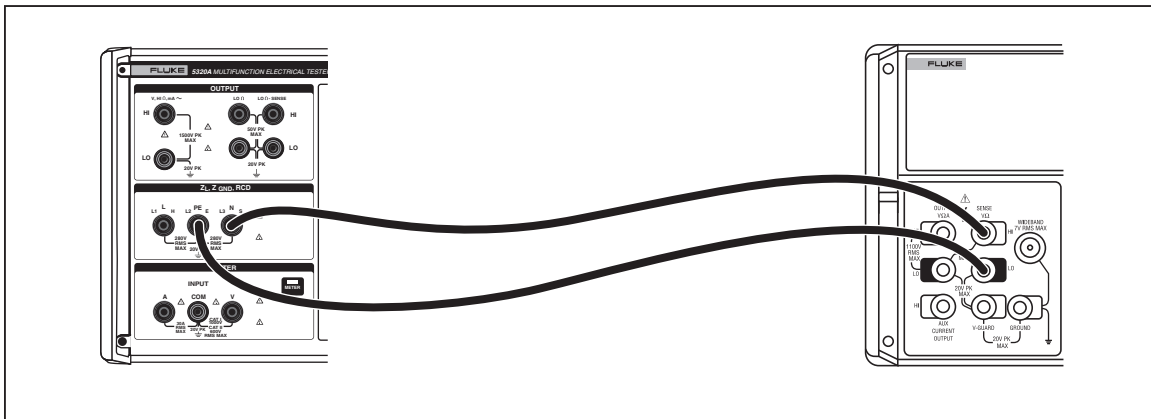

Figure 3-32. RCD Trip Current Calibration Connections
- Connect the Calibrator to the multifunction calibrator as shown in Figure 3-32.
1. Connect the Calibrator to the multifunction calibrator as shown in Figure 3-32.